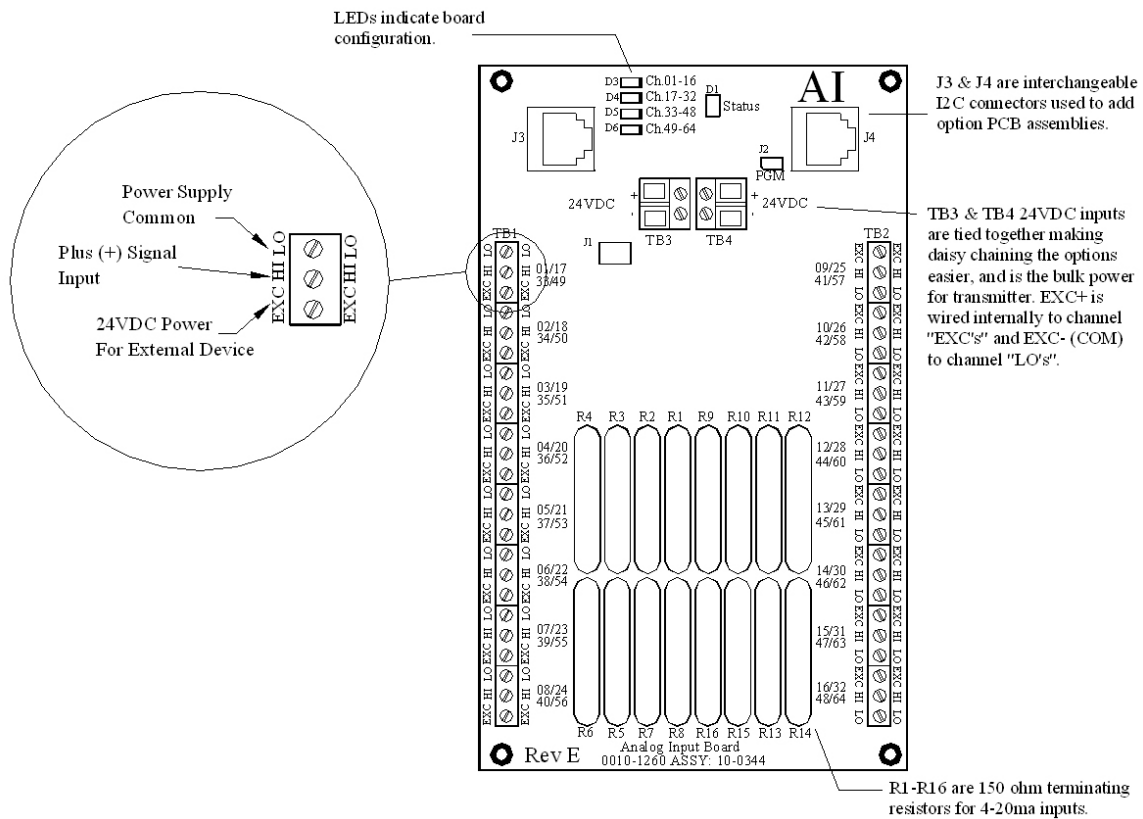

Figure 3-2
Many transmitters or sensors have analog output signals and the 12 bit *Analog Input* Board, shown in Figure 3-2, is available to accept these. TB1 and TB2 with 24 positions each, offers 3 terminals per channel for distributing power and receiving analog inputs. These are **EXC** and **HI / LO** inputs. TB3 and TB4 with only two positions each, is for daisy chaining the power supply from one option board to another. Precision 150 ohm 5 watt resistors (R1 – R16) between each channel's **IN LO** and **IN HI** terminals are termination resistors for 4-20mA inputs.
**EXC** and **IN LO** terminals are bussed together internally. **EXC** terminals are tied directly to TB3 and TB4 +24 VDC and **IN LO** terminals are tied to TB3 and TB4 power supply common. Bussing allows transmitter power to be brought into the system at a single point (TB3 or TB4) and distributed back out at each channel's **EXC / IN LO** terminals to simplify field wiring. Figure 3-2 includes typical wiring to 2 & 3 wire 4-20mA transmitters.